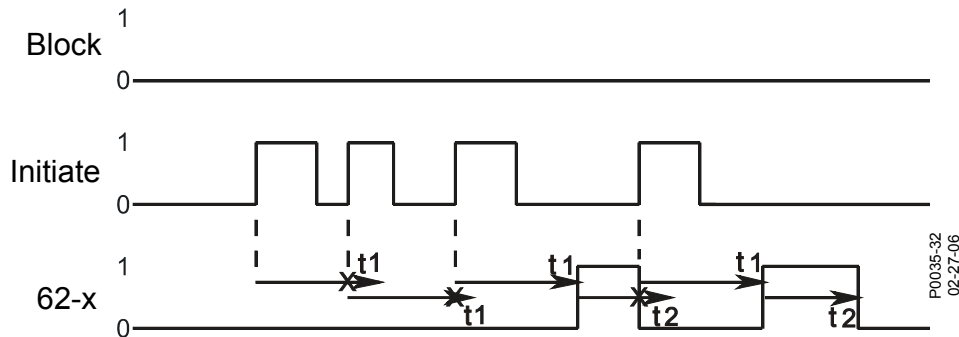

Figure 69-5. One-Shot/Retriggerable Mode
- Step 7: Use the Metering Explorer in BESTCOMSPi^{us} to open the Reports, Sequence of Events screen. Verify that approximately 15 seconds after the second 43-1 OFF to ON initiate signal, the 62-1 timer output went true. Verify that the timer output went false when the third OFF to ON initiate signal forced the 62-1 time delay 1 to restart. Figure 69-5 illustrates the timing relationship of the 43-1 switch and 62-1 timer.